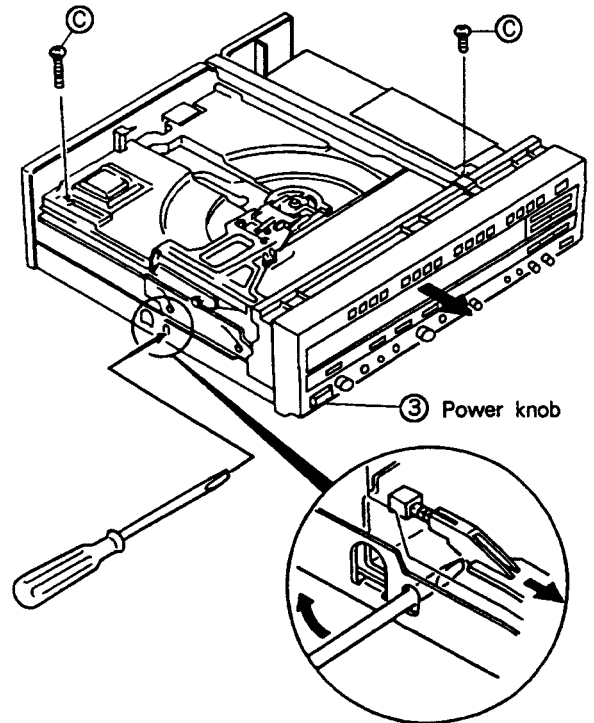

Fig. 7-3
- ③ To remove the power knob, insert the flat-blade screwdriver into the slit on the side of the chassis as shown in Fig. 7-3, and push the protrusion of the knob. You can now remove the power knob easily. (Check that the power switch is in the OFF position before removal.)
**7.2 REMOVING THE TRAY (Fig. 7-3, 4)**
- ① Remove two stopper screws ③ shown in Fig. 7-3. When the power can be turned ON, press the OPEN button then pull the tray out from the player.